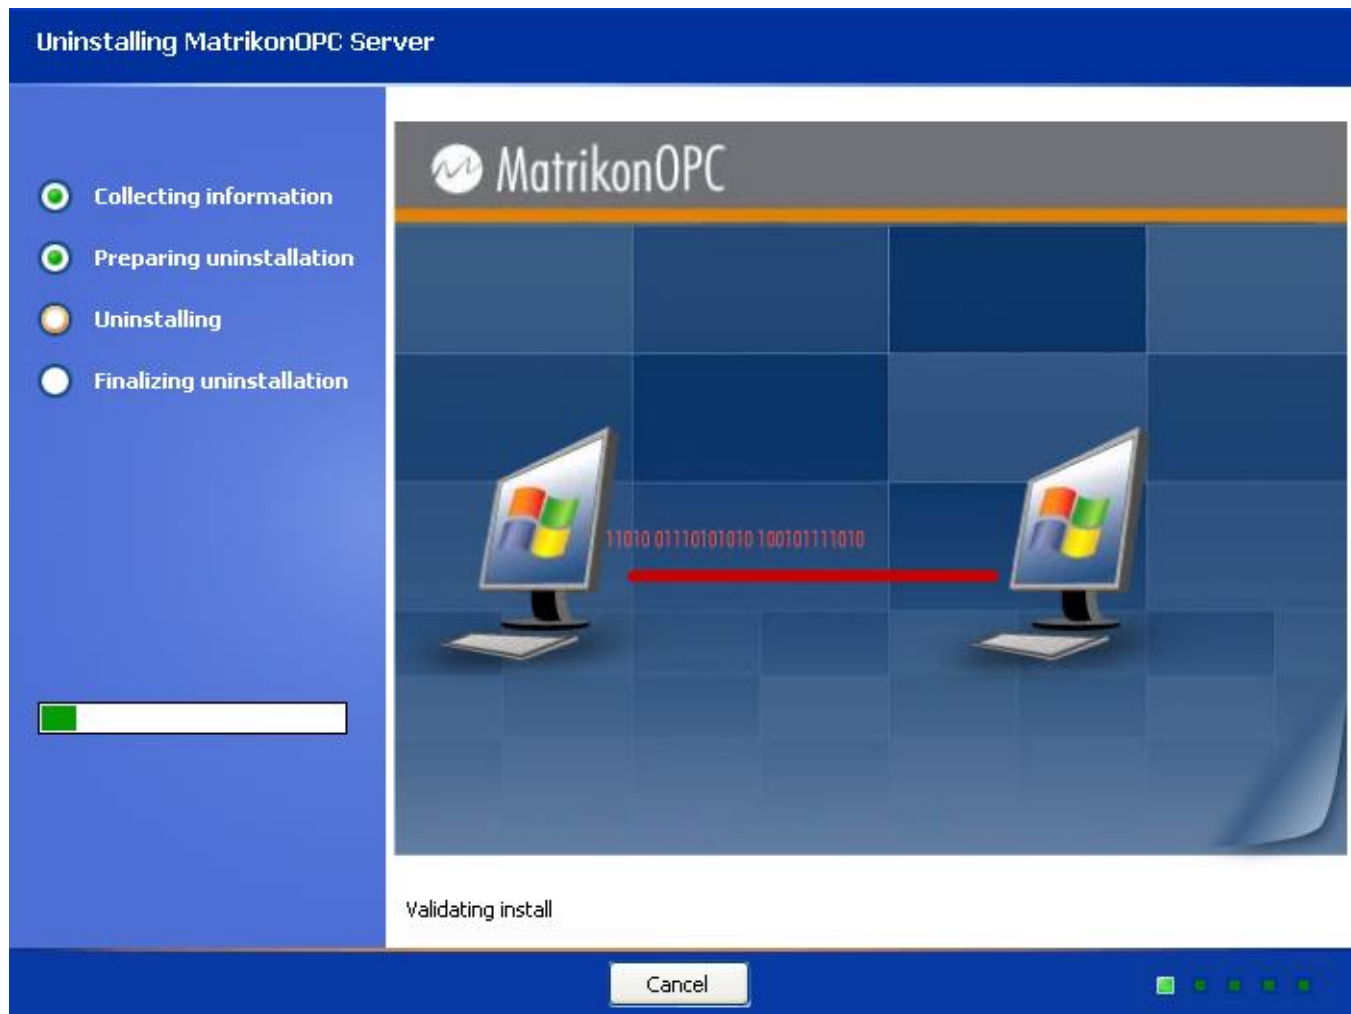

Figure 97 - Uninstalling MatrikonOPC Server for SCADA Modbus Screen
10. The **Uninstalling MatrikonOPC Server for SCADA Modbus** screen (Figure 97) appears and the un-install takes place.